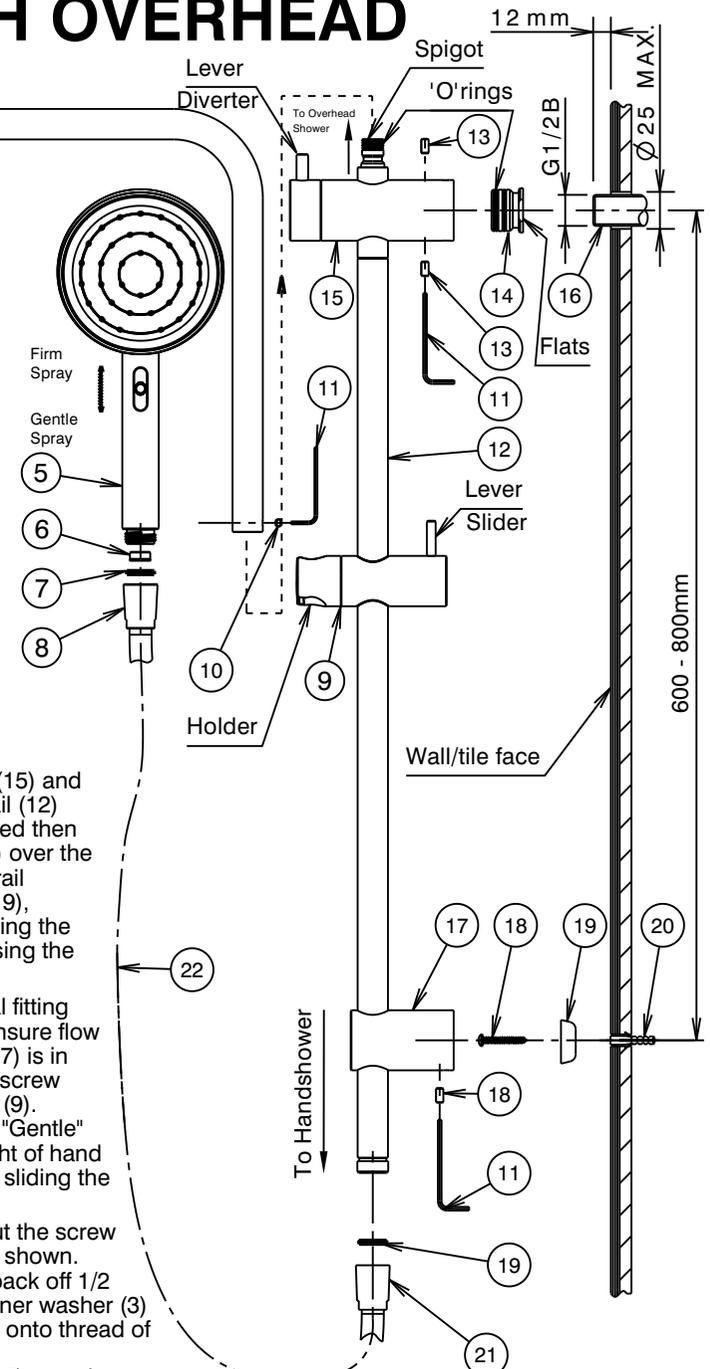

Fig. 1
1) Check that threaded nipple (16) is the correct length as shown. Cut to length if required ensuring end face is square. Apply thread tape to the thread.
2) Screw adaptor (14) onto threaded nipple (16) until adaptor (14) is held securely against wall/tile face. DO NOT OVERTIGHTEN. Apply suitable lubricant to 'O'Rings on adaptor (14).
3) Mark the position for the shower rail mounting post (17) at a suitable distance from the threaded nipple (16). (Fig 1.)